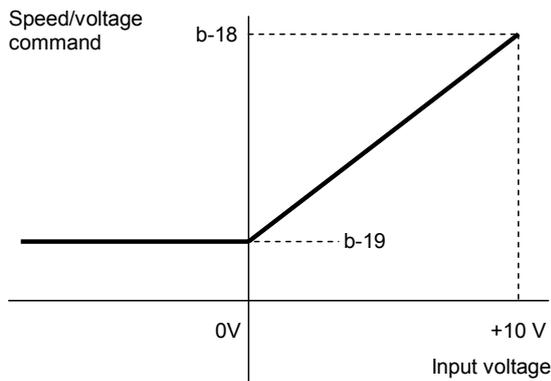
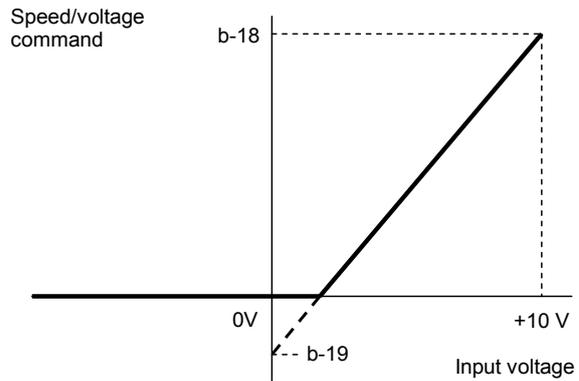

Figure 2-1 When 0 to +10V is selected (Analog input (1) speed/voltage lower limit (b-19) is 0 or more)
Figure 2-2 When 0 to +10V is selected (Analog input (1) speed/voltage lower limit (b-19) is less than 0)
**2. When the analog input (1) characteristics selection is 0 to +10V input (b-17 = 1)**
When 0V is input, the characteristics are the setting of the analog input (1) speed/voltage lower limit (b-19). When +10V is input, the characteristics are the setting of the analog input (1) speed/voltage upper limit (b-18) (Figure 2-1). However, those are effective for positive voltages only. Negative voltages are limited to the analog input (1) speed/voltage lower limit (b-19) (or 0 when a negative value is set to the analog input (1) speed/voltage lower limit (b-19)) (Figure 2-2).